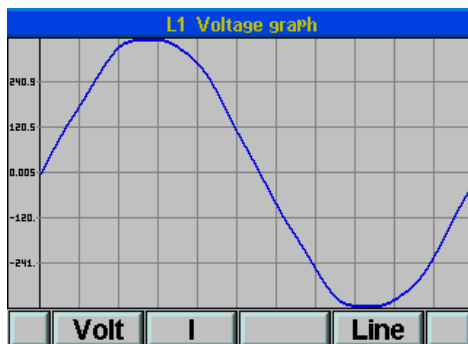

Figure 5.14. Voltage Graph
- 2 Click “Enter”, the **Power Quality** screens appears (Figure 5.14).